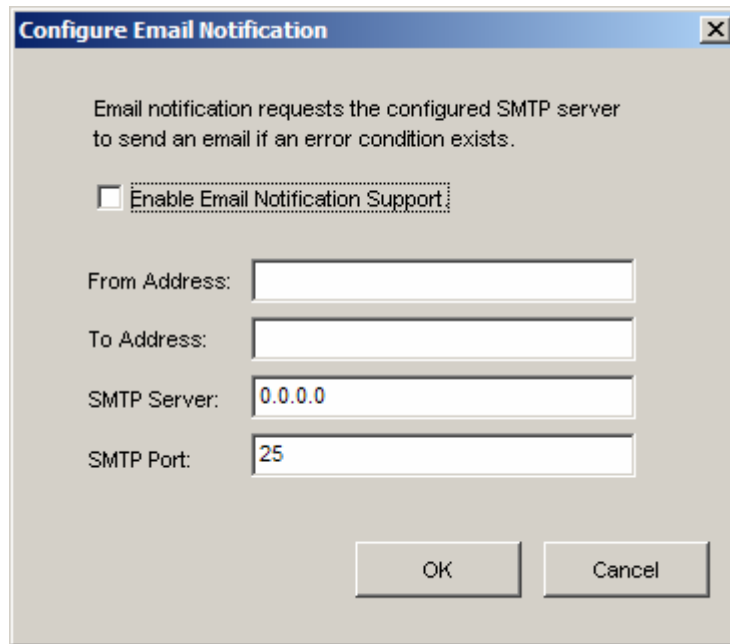

Figure 5-48 Configure Email Notification Dialog Box
2. On the **File** menu, click **Configure Email Notification**. The Configure Email Notification dialog box appears (see Figure 5-48).